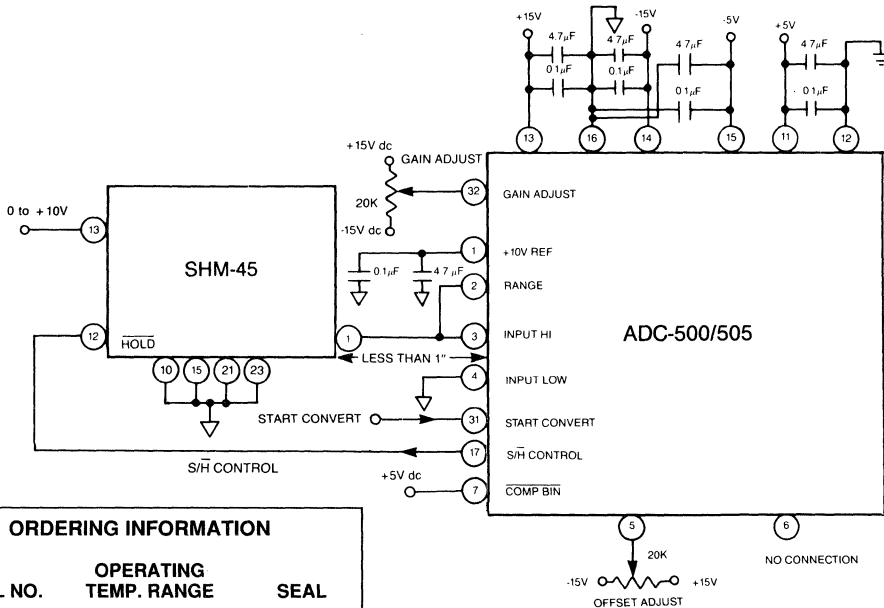

Figure 3. ADC-SHM Connection Diagram
9. Requirements for ± 2.5 V inputs can be satisfied using DATEL's AM-1435 amplifier in front of the SHM-45/ADC-500 configuration, shown in Figure 3, at the appropriate gain. The SHM-45's gain of 2 mode allows 0 to +5V or ± 5 V input ranges.
1. Connect the converter per Figure 3 and Table 2 for the appropriate full-scale range (FSR). Apply a pulse of 50 nanoseconds minimum to the START CONVERT input (pin 31) at a rate of 500 KHz. This rate chosen to reduce flicker if LED's are used on the outputs for calibration purposes.